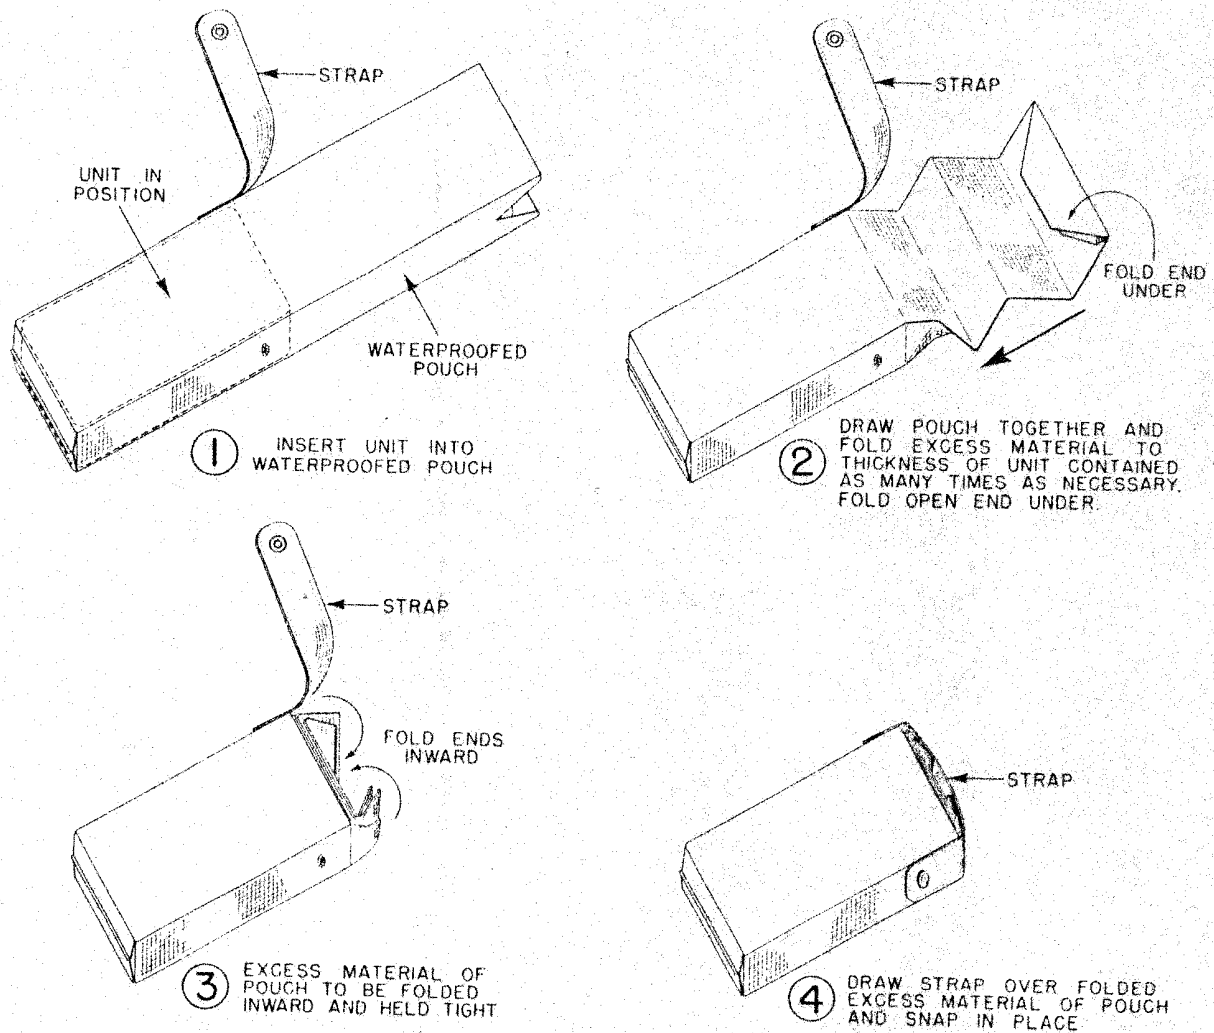

Figure 26. Packaging detail.
a. When not in use, or when transporting, the units should be kept in the plastic pouches provided, as shown in Figure 26. The pouches are waterproof if folded in the prescribed manner.
Filter-Accessory Unit RA-6. All are used as shown in Figure 26.